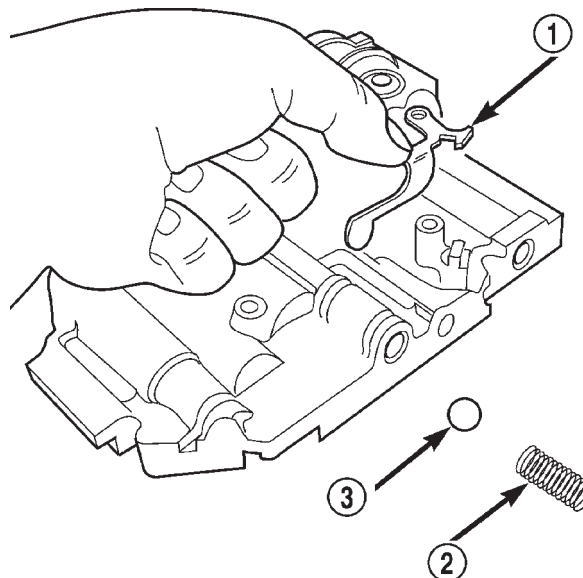

Fig. 140 Vent Reservoir Check Valve and Spring
- (4) Install vent reservoir check valve and spring (Fig. 140).